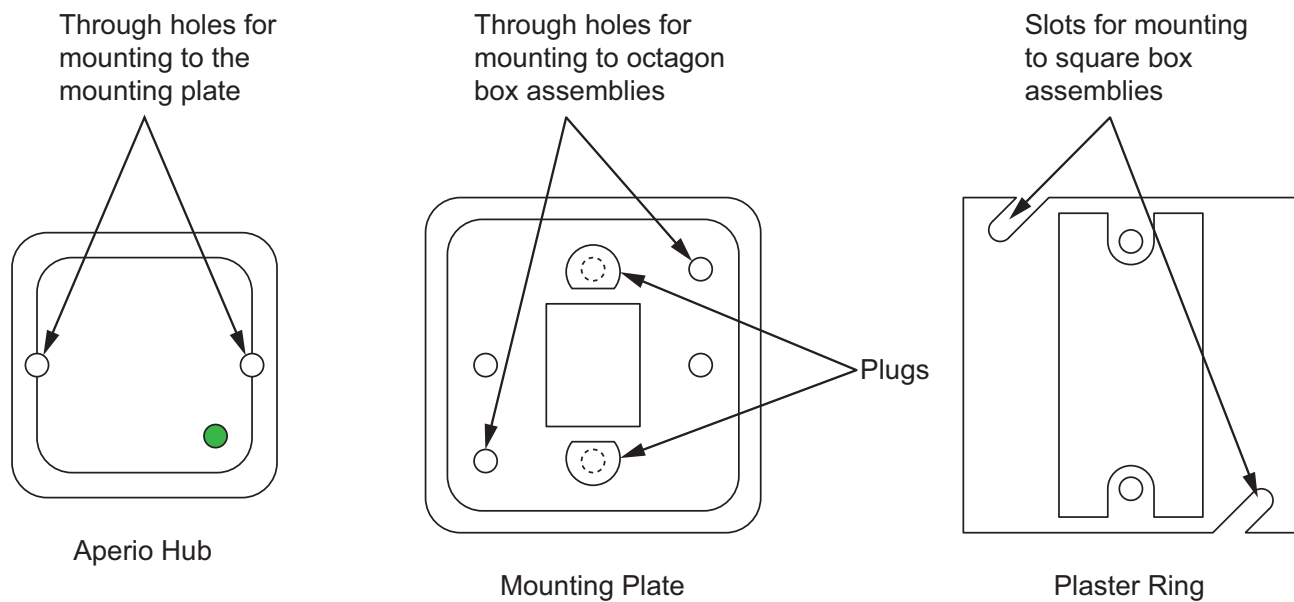

Figure 23. The Aperio hub along with the mounting plate and plaster ring used for installing the Aperio hub on standard box assemblies
In addition to the Aperio hub, you will need a mounting plate and a plaster ring (for square box assemblies). See Figure 23.
1. Remove the plugs from the mounting plate (see Figure 23).
Note: If you are installing onto a square box assembly, first secure the plaster ring to the assembly using two screws (see Figure 23), and then secure the mounting plate to the plaster ring.